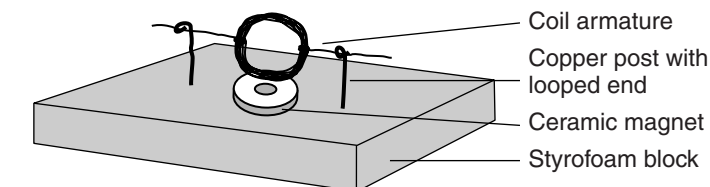

Figure 1.
8. Use needle-nose pliers to make a small, complete loop at one end of each piece of copper wire. If necessary, use the needle-nose pliers to straighten the copper wires as well (see Figure 1).
11. Place the coil armature axles into the loops in the copper wire posts. The axle of the coil armature should be parallel to the Styrofoam surface and the armature should be balanced and spin freely (see Figure 1).